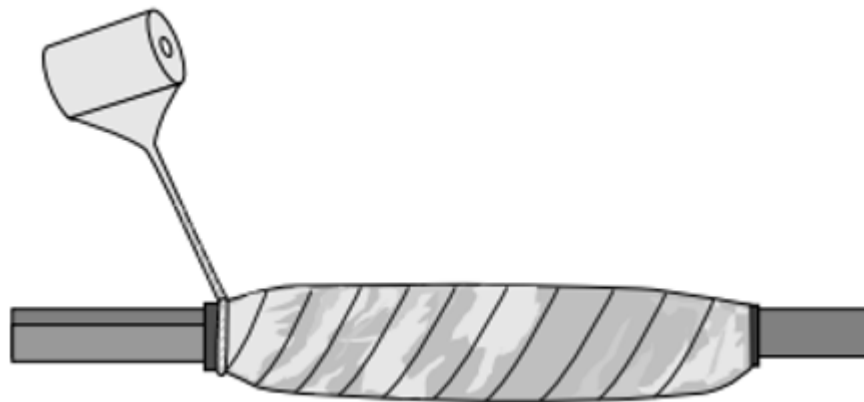

Figure 7
11. Starting at one sealant collar, loosely wrap the encapsulated bundle with one half-lapped layer of 3-mil splice wrap. At the opposite sealant collar, twist 6" of the splice wrap to form a cord, and tightly wrap the cord around the sealant collar. (Figure 7)